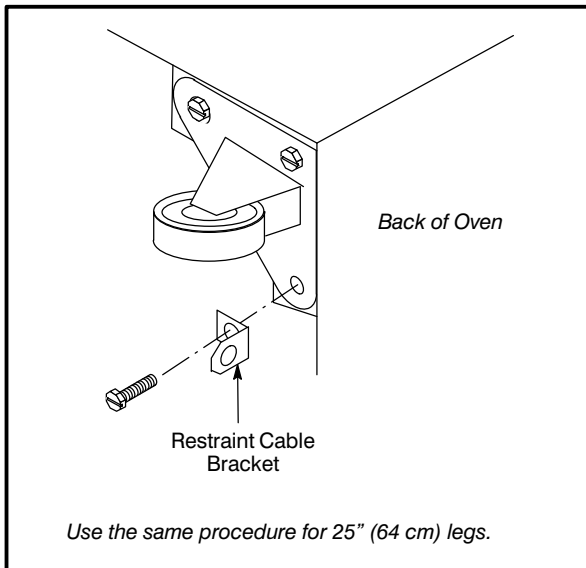

Figure 10
1. Mount the supplied bracket to the leg bolt just below the gas inlet. See Figure 10.